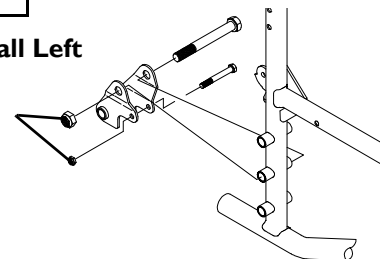

FIGURE 5 Installing Amputee Bracket - 9000XDT
1. Refer to the following chart or FIGURE 5 to determine the mounting position of the amputee bracket: